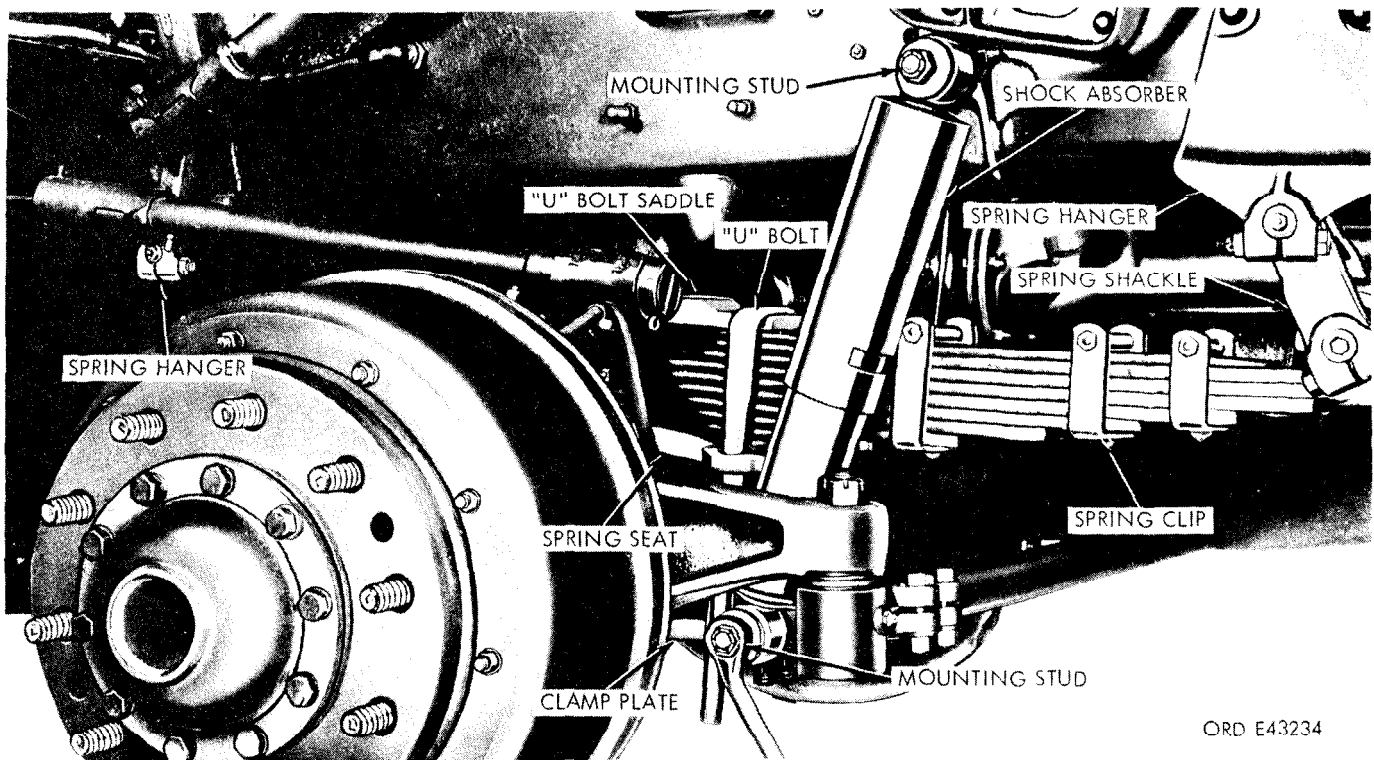
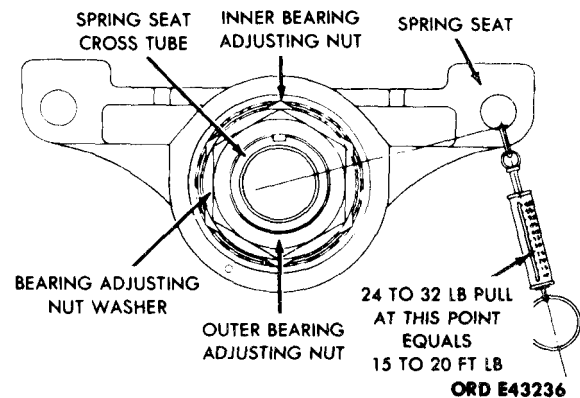

Figure 2-216. Left front spring and shock absorber.
Figure 2-217. Spring seat bearing adjustment.
a. *Front Spring.* Semielliptic, leaf type spring assemblies (fig. 2-216) are mounted to both sides of vehicle. Two U bolts and clamp plates secure the front springs to axle. The spring assemblies are mounted to a pivoting shackle at the rear spring
*c. Shock Absorbers.* Two nonadjustable, double-acting shock absorbers (fig. 2-216) are mounted to the front of the vehicle. The upper end is secured to the frame side rail by a mounting bracket. The lower end is secured to the spring clamp plate. Four rubber bushings (two to each eye) are installed in the upper and lower ends of the shock absorber.
(1) Remove the wheels from both rear axles (para 2-207) to provide access to the spring seat to be adjusted.
(2) Place the jack under the cross tube connecting the left and right spring seats (fig. 2-217). Raise the jack sufficiently to hold the tube in position.
(3) Remove the four nuts and lockwashers from the two U-bolts (fig. 2-216). Remove the U-bolts from the spring seat and spring saddle.
(5) Place two jacks under the spring, one on each side of spring seat. Raise the spring clear of the seat sufficiently to permit some rotation of the spring seat around the end of the cross tube (fig. 2-217).
(6) Hook the end of a tester scale in the clamp bolt hole (fig. 2-217), and pull downward on the scale, noting the pull required to rotate the spring seat on the cross tube.
(7) When the bearings are correctly adjusted, the pull on the scale required to rotate the spring seat is 24 to 32 pounds. This is equal to 15 to 20 lb-ft preload on the bearings.
(8) Remove the six capscrews and lockwashers from the spring seat cap. Remove the cap from the spring seat assembly. Remove and discard the cap gasket.
(9) Remove the outer bearing adjusting nut (fig. 2-217) and the bearing adjusting nut washer from the cross tube.
(10) Turn the inner bearing adjusting nut (fig. 2-217) until a pull of 24 to 32 pounds on the scale is required to rotate the spring seat.
(11) Install the bearing adjusting nut washer and outer bearing adjusting nut on the cross tube. Tighten the nut. Check the bearing adjustment as described in (6) above.
(1) Disconnect the spring seat from spring as described in (1) through (5) above.
(2) Remove the six capscrews and lockwashers from the spring seat cap. Remove the cap from the spring seat assembly. Remove and discard the cap gasket.
(3) Remove the outer bearing adjusting nut (fig. 2-217), bearing adjusting nut washer and the inner bearing adjusting nut from the cross tube.
(4) Pull the spring seat with the outer tapered roller bearing cone from the spring seat.
(5) Remove dust seal washer, two dust seals, wiper retainer, wiper, grease seal and two bearings and cups from spring seat.
(1) With the inner tapered roller bearing cone in position on the cross tube (fig. 2-217), install the spring seat assembly on the cross tube so that the cone enters the bearing cup in the outer bore of the seat.
(3) Install the inner bearing adjusting nut on the end of the cross tube, and adjust the bearings as described in paragraph *a* above.
*a. Removal (fig. 2-216).*
(1) Raise the vehicle to remove the load from the shock absorber.
(2) Refer to paragraph 2-23 *1a(4)* for procedures to disconnect the lower shock absorber mounting eye.
(3) Remove the safety nut securing the upper shock absorber mounting eye. Remove the washer, two rubber bushings, and the shock absorber from vehicle. Discard the bushings.
*b. Installation (fig. 2-216).*
(1) Position the shock absorber on the studs with new bushings installed to the upper and lower ends.
(2) Install a washer and safety nuts on the upper and lower end.
(3) Lower the vehicle to the ground.